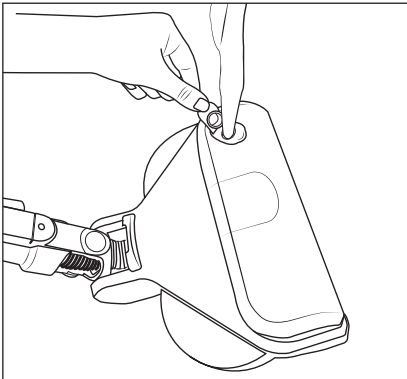

Fig. 16
- 1) Grip the closing tab **33** of the fresh water tank **32** with your fingers and pull it upwards out of the filler opening of the fresh water tank **32** (see Fig. 16).
- 2) Fill the fresh water tank **32** with tap water or distilled water (see Fig. 16).